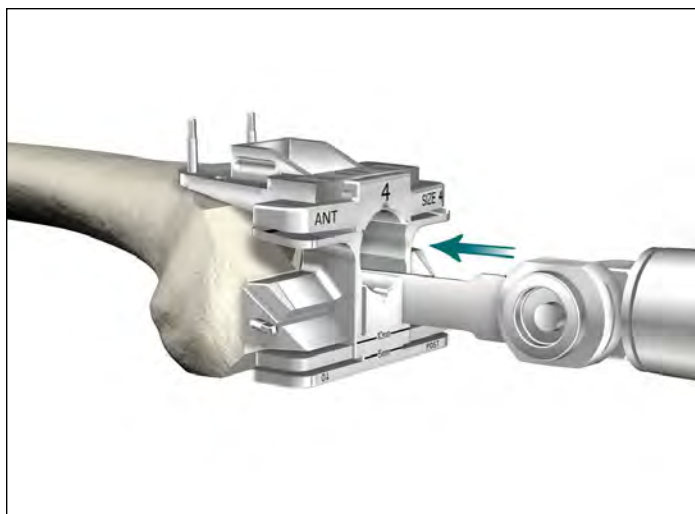

Figure 29
- Using a narrow 15mm-wide, 0.050" thick oscillating saw, score the M/L walls of the femoral box preparation through the distal face of the All-in-One Cutting Block (**Figure 29**).